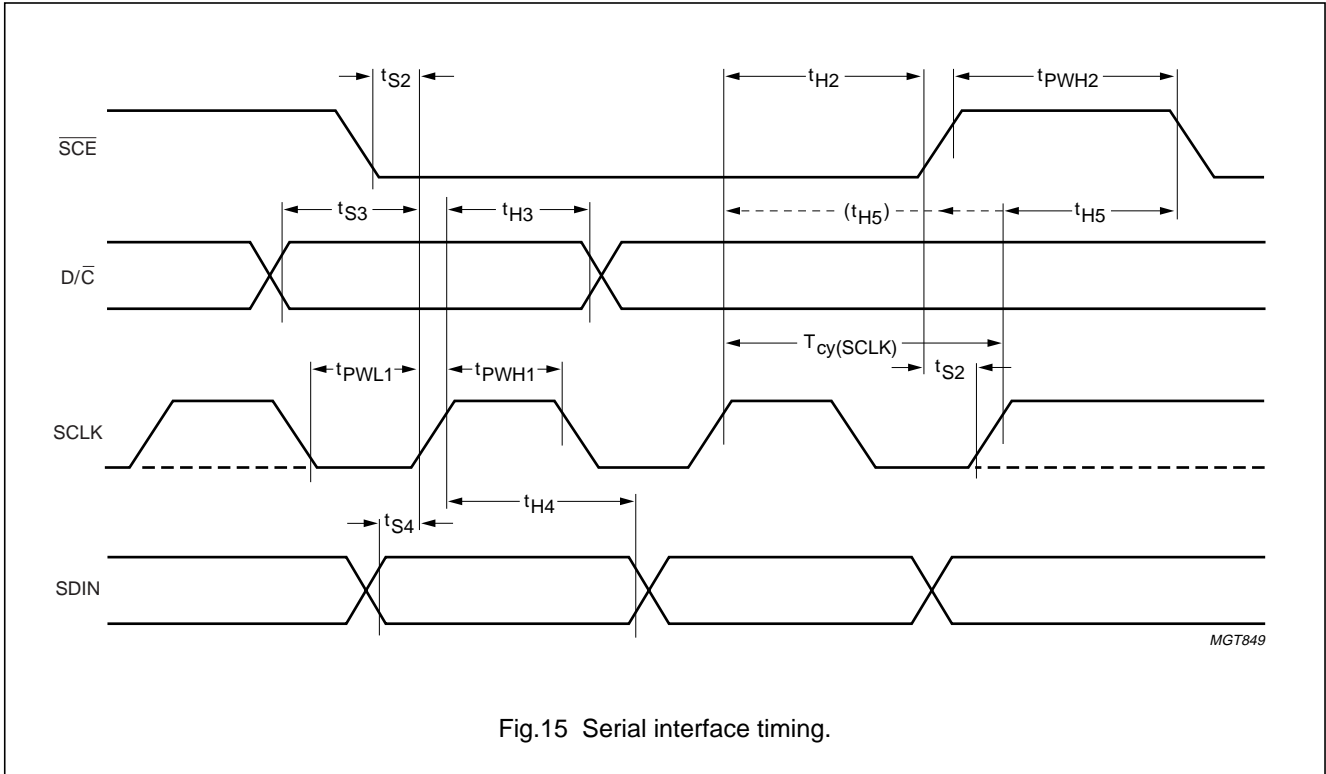

Fig.15 Serial interface timing.
4.  $t_{H5}$  is the time from the previous SCLK positive edge (irrespective of the state of  $\overline{SCE}$ ) to the negative edge of  $\overline{SCE}$  (see Fig.15).